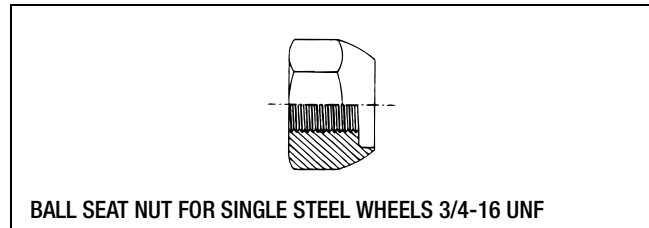

Figure 3.9
- If a 3/4-16 UNF stud is on the front hub, use a nut with the same 1.5-inch hexagon, but with a 0.75-inch thread. Figure 3.9.